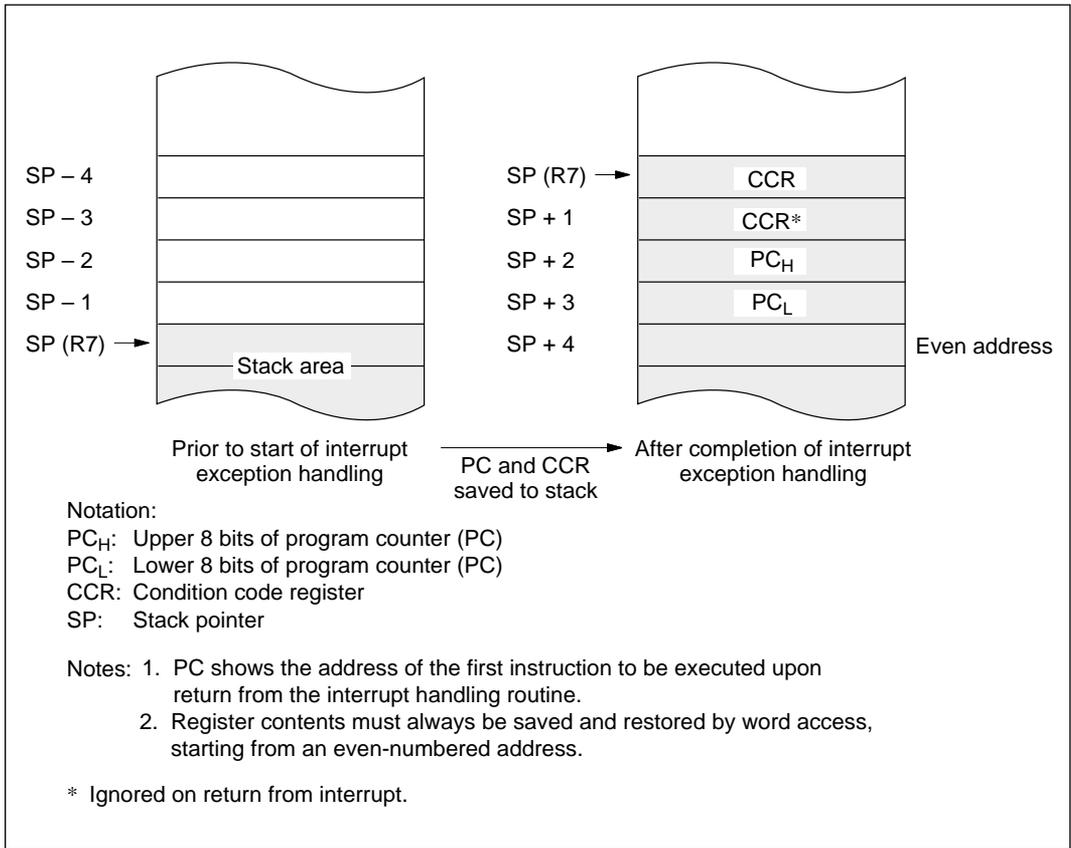

Figure 3-5 Stack State after Completion of Interrupt Exception Handling
- If the interrupt is accepted, after processing of the current instruction is completed, both PC and CCR are pushed onto the stack. The state of the stack at this time is shown in figure 3-5. The PC value pushed onto the stack is the address of the first instruction to be executed upon return from interrupt handling.